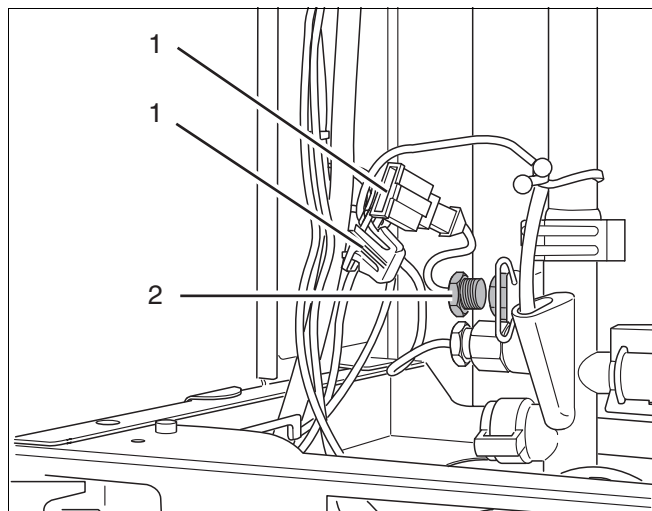

Fig. 71 600 - 11S / 19S / 24S / 24C:
- Loosen the plug-in connection (fig. 71, item 1).
- Unscrew the sensor (fig. 71, item 2) and replace with a new unit.